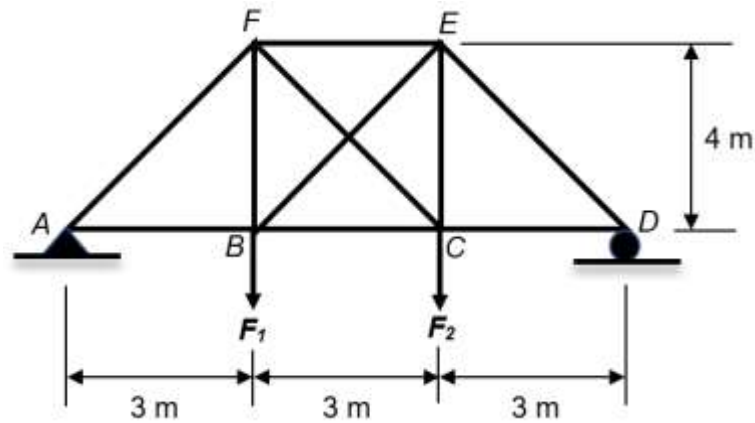

Figure 4
4. (a). The truss system shown in **Figure 4** is subjected to two vertical loads, F_1 and F_2 at Joints B and C, respectively. Supports A and D consist of a pin and roller, respectively. Determine the reaction forces at supports A and D, and the force in each truss member using the method of least work. Set $F_1 = 50$ kN and $F_2 = 40$ kN. The cross-sectional area, A and Young's Modulus, E of the truss members are constant.